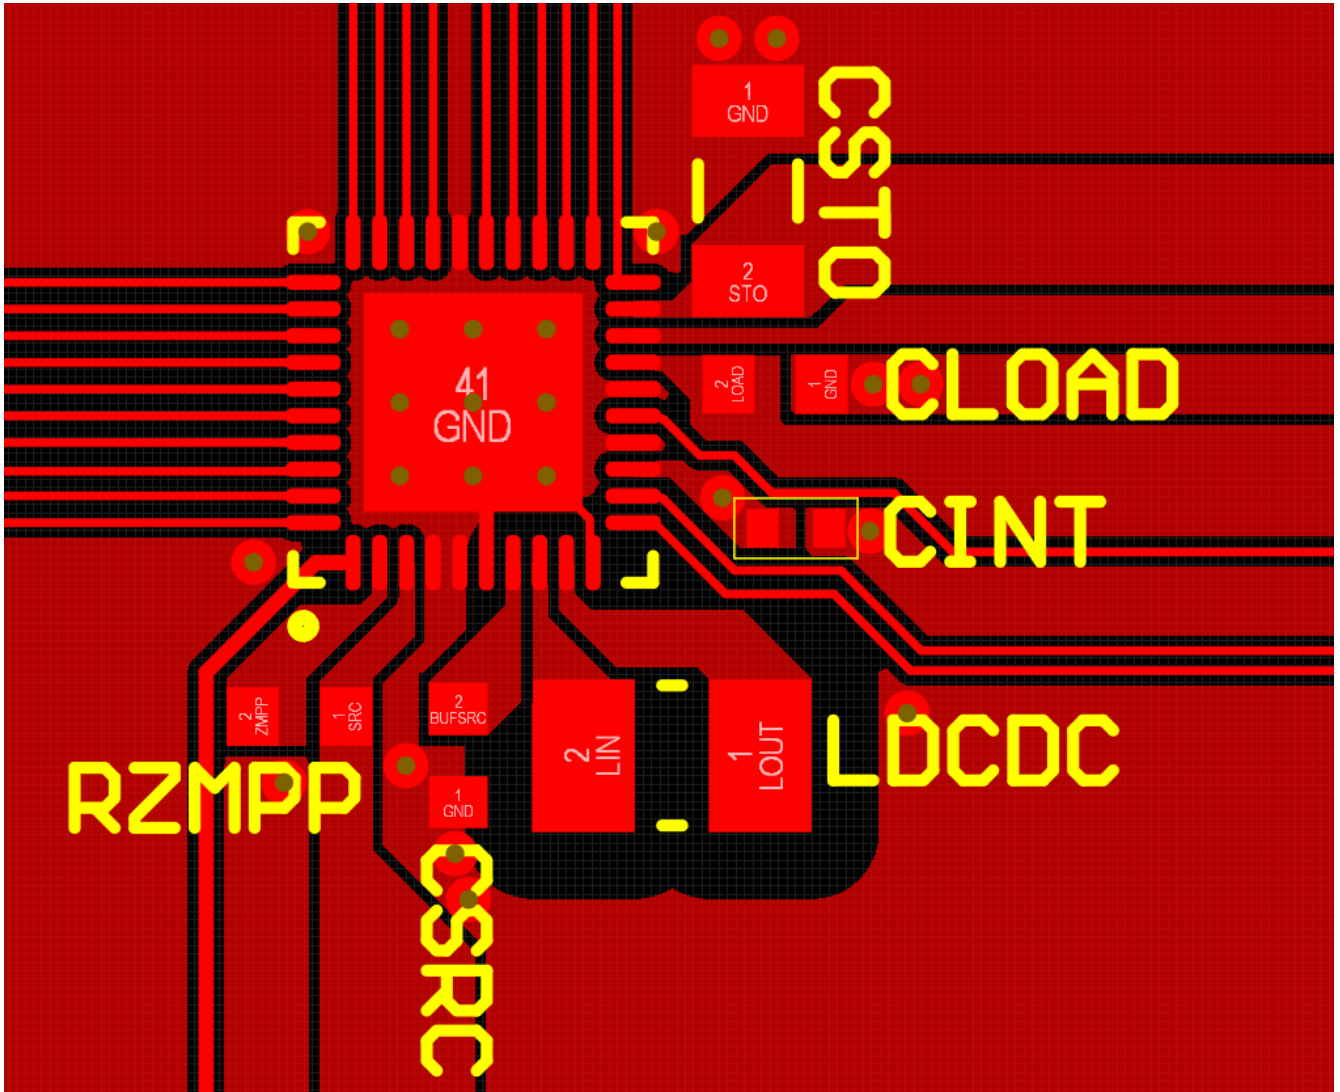

Figure 19: Layout Example for the AEM10330 and its Passive Components
- The switching nodes (**LIN** and **LOUT**) must be kept as short as possible, with minimal track resistance and minimal track capacitance. Low resistance is obtained by keeping track length as short as possible and track width as large as possible between **L_{DCDC}** and the AEM10330 pins. Minimal capacitance is obtained by keeping distance between **LIN/LOUT** and other signals. We recommend removing the ground plane, the power plane and the bottom layer ground pour under **L_{DCDC}** footprint, as well as adding distance between **LIN/LOUT** and the top ground pour, as shown on Figure 19.